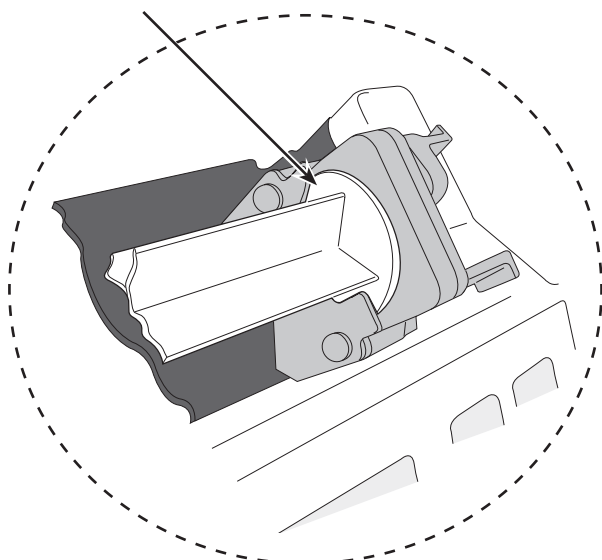

Figure 1.
4. Insert the syringe into the slots on the plunger holder (see Figure 1).